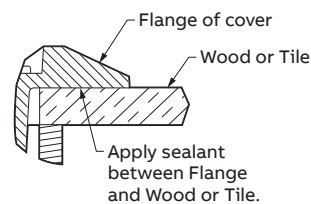

Figure 2a - Wood or Tile floor
- Figure 2a for wood or tile floor covering.